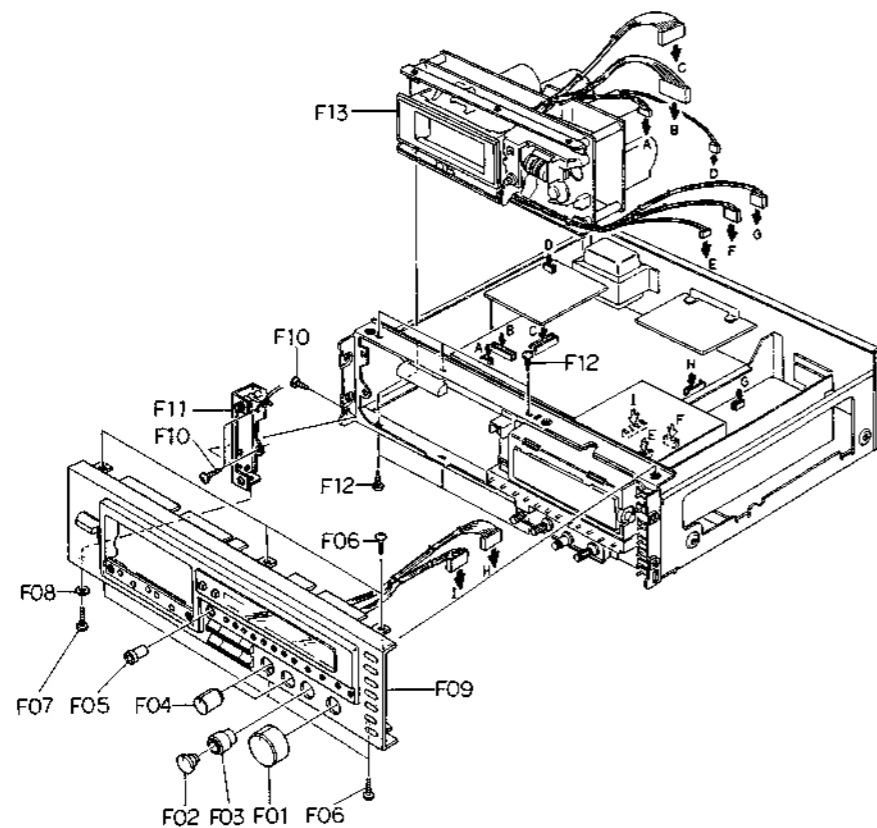

Fig. 2.2
Refer to Fig. 2.2.
- (1) Refer to Fig. 2.2. Remove Front Panel Ass'y referring to item 2.5.
- (2) Remove F01, then disassemble F02 (FL Indicator Ass'y including 3 connectors).
- (2) Remove one connector and the wires connected by wrapping.
- (3) Remove F03, then disassemble F04 (Auto Azimuth P.C.B. Ass'y)
- (2) Remove 7 connectors and the wires connected by wrapping from F06 (Logic P.C.B. Ass'y).
- (3) Remove F05, then disassemble F06 (Logic P.C.B. Ass'y).
- (2) Pull out F07 (Function Switch Knob Ass'y).
- (3) Remove the Flat Cables, connector and wires connected by wrapping from F10 (Switch P.C.B. Ass'y).
- (4) Remove F08 and F09, then disassemble F10 (Switch P.C.B. Ass'y).
- (2) Remove F15, then disassemble F16 (Calibration Case Ass'y)
- (3) Remove F17, then disassemble F18 (Record Cal. P.C.B. A Ass'y).
- (4) Remove F19, then disassemble F20 (Record Cal. P.C.B. B Ass'y).
- (5) Remove F21, then disassemble F22 (Lamp P.C.B. A Ass'y).
- (2) Remove F23, then disassemble F24 (Power Switch Knob).
- (3) Remove F25, then disassemble F26 (Power Switch Holder Ass'y).
- (4) Remove F27, then disassemble F28 (Power Switch).
- (2) Remove F29, then disassemble F30 (Insulator) and F31 (Lamp P.C.B. B Ass'y).
- (3) Remove F32 (Lamp P.C.B. C Ass'y) by releasing the self-interlocking pin of the Reflector.
- (2) Remove F01, F02, F03 and F04, then disassemble F05 (Control Button Ass'y).
- (3) Remove F06, then disassemble F07 (Control Switch P.C.B. Ass'y).
- (1) Refer to Fig. 2.2. Remove Mechanism Ass'y referring to item 2.7.
- (2) Press the Eject Button to open the Cassette Case Ass'y.
- (3) Remove F01 and F02, then disassemble F03 (Cassette Case Holder L Ass'y) by releasing the self-interlocking pin of the Damper Lock Arm and F04 (Cassette Case Ass'y).
- (4) Remove F05, then disassemble F06 (Cover Plate Ass'y).
- (2) Remove F07, then disassemble F08 (Tape Counter Ass'y).
- (3) Remove F09, then disassemble F10 (Pitch Control Holder Ass'y).
- (4) Remove F11, then disassemble F12 (Memory Switch).
- (5) Remove F13, then disassemble F14 (Pitch Control Volume).
- (2) Remove F01 and F02, then disassemble F03 (Flywheel Holder Ass'y) and F08 (Capstan Belt).